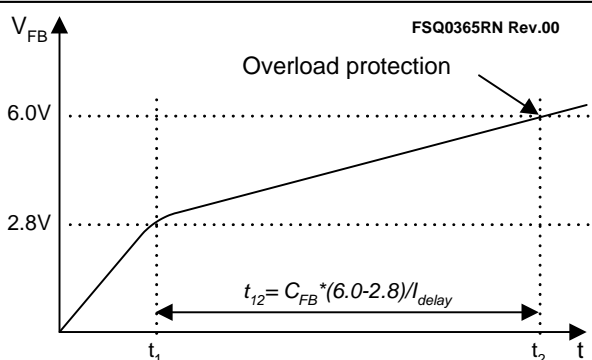

Figure 24. Overload Protection
4.1 Overload Protection (OLP): Overload is defined as the load current exceeding its normal level due to an unexpected abnormal event. In this situation, the protection circuit should trigger to protect the SMPS. However, even when the SMPS is in the normal operation, the overload protection circuit can be triggered during load transition. To avoid this undesired operation, the overload protection circuit is designed to trigger only after a specified time to determine whether it is a transient situation or a true overload situation. Because of the pulse-by-pulse current limit capability, the maximum peak current through the SenseFET is limited, and therefore the maximum input power is restricted with a given input voltage. If the output consumes more than this maximum power, the output voltage (V_O) decreases below the set voltage. This reduces the current through the optocoupler LED, which also reduces the optocoupler transistor current, thus increasing the feedback voltage (V_{FB}). If V_{FB} exceeds 2.8V, D1 is blocked and the 5 μ A current source starts to charge CB slowly up to V_{CC} . In this condition, V_{FB} continues increasing until it reaches 6V, when the switching operation is terminated, as shown in Figure 24. The delay for shutdown is the time required to charge CB from 2.8V to 6V with 5 μ A. A 20 ~ 50ms delay is typical for most applications.